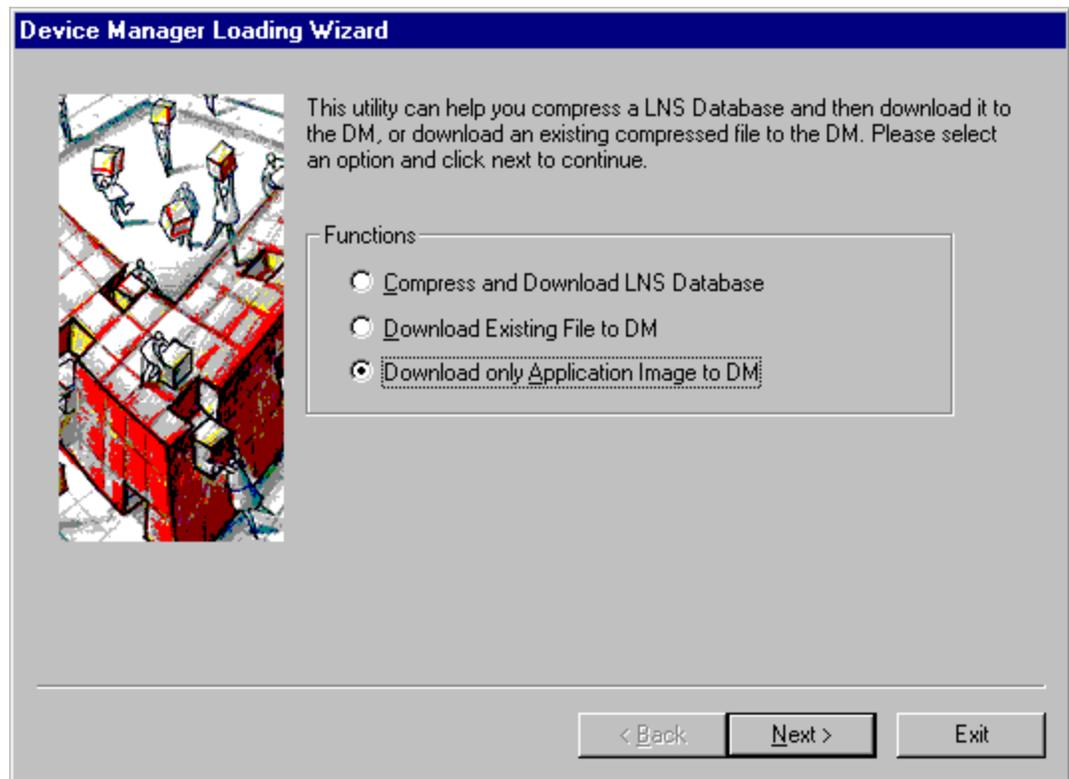

Figure 7.3 – Downloading a New Application Image
1. Start the Device Manager Compression Wizard and select **Download only Application Image to DM**. The window shown in figure 7.3 will appear.